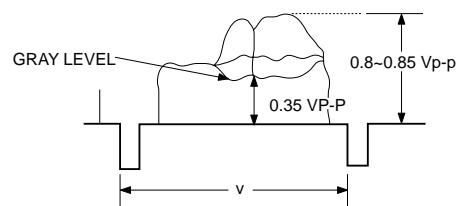

Figure 2. Gray Level Setting
5. While viewing a brightly lit object (Refer to Figure 2):